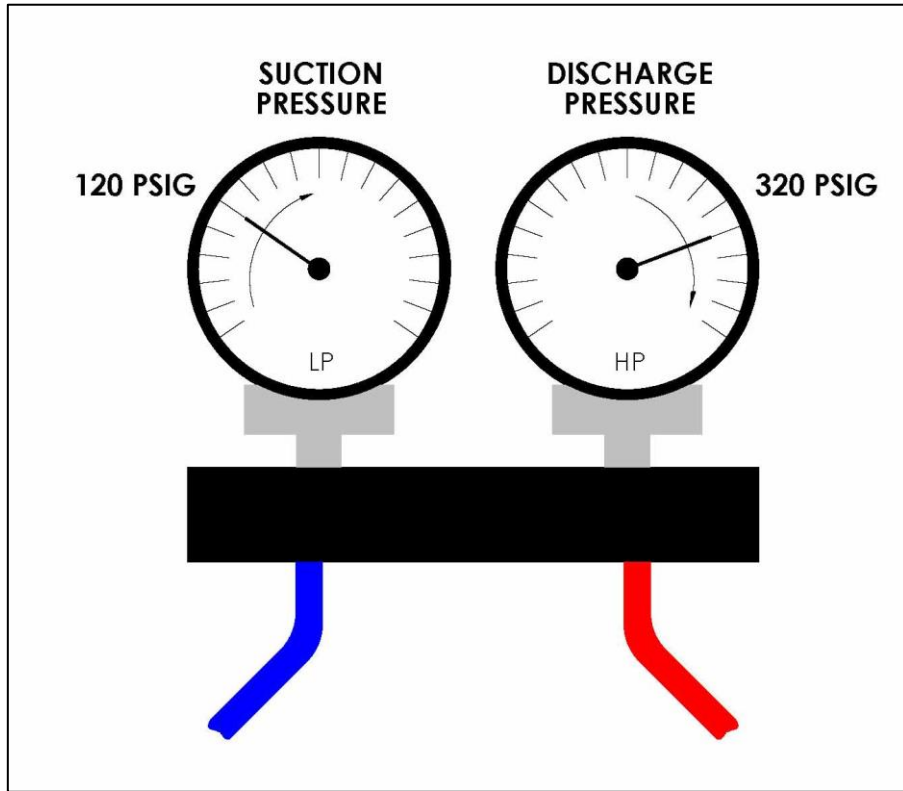

Figure 30. Mimimum Suction and Discharge Pressures
3. As shown in Figure 30, when the **compressor discharge pressure reaches 320 psig (HP gage) and the suction pressure reaches 120 psig (LP gage) the CAV is closed.**